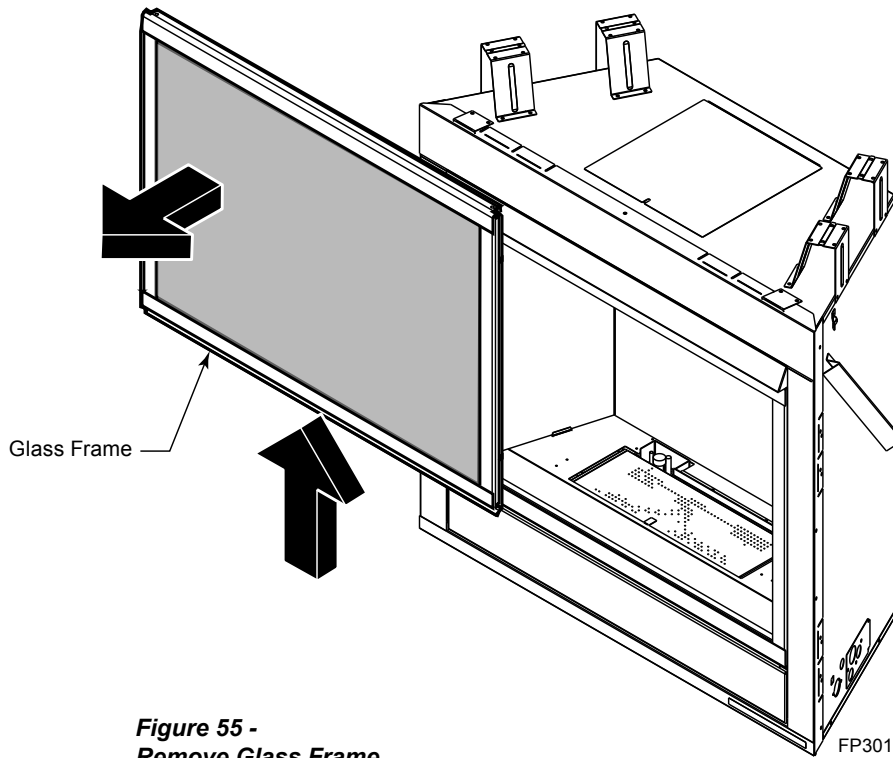

Figure 55 - Remove Glass Frame
2. Release the two (2) latches on the top of the fireplace by pulling forward and up. *Figure 55*